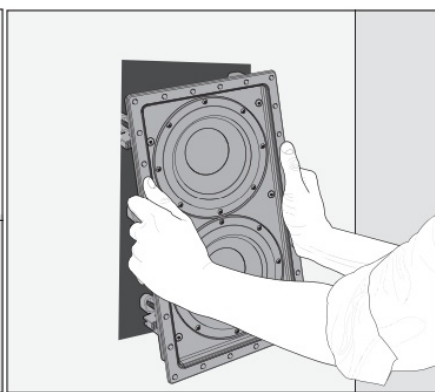

Fig. 4b
- 3) Gently position the assembly into the wall cavity (Fig. 4b).